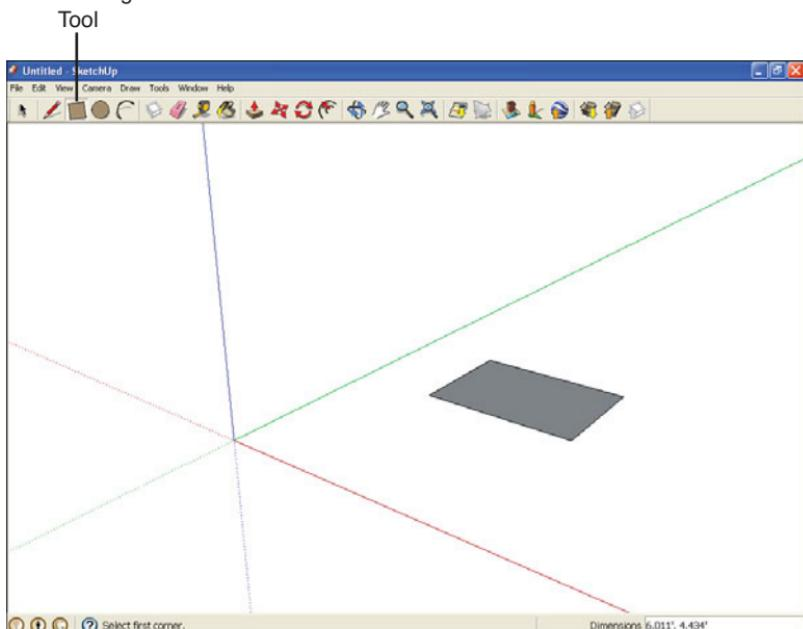

FIGURE 3.3 Drawing a rectangle.
2. Click the **Rectangle tool** in the toolbar (shown in Figure 3.3).
4. Move the mouse to the opposite corner of the rectangle and click it. SketchUp will draw the rectangle, as shown in Figure 3.3.